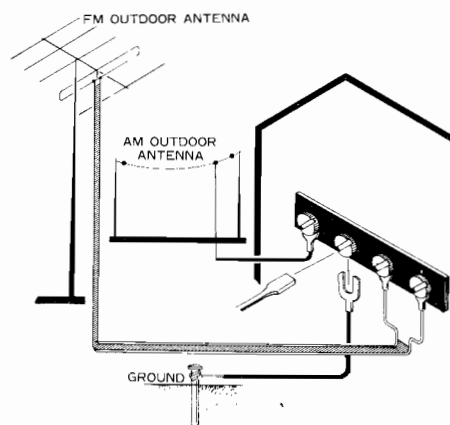

Fig. 5
- When using the SX-9000 at a relatively long distance from the station, or within a building or home with relatively thick walls, or vicinity of tall buildings, erect an FM outdoor antenna, and connect it to the FM antenna terminals as shown in Fig. 5.
- If you want reception from a distant AM station, you may have to set up an AM outdoor antenna. In such a case, connect one end of the AM outdoor antenna to the AM antenna terminal. (See Fig. 5.)